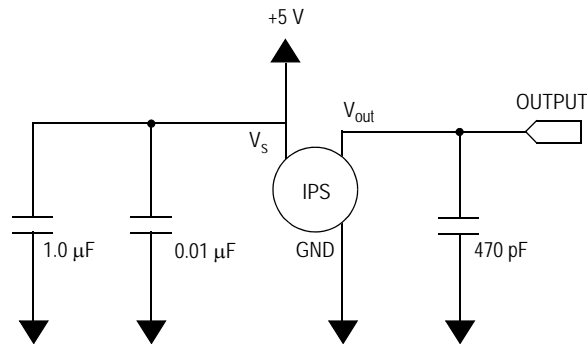

Figure 3. Recommended Power Supply Decoupling and Output Filtering
**Table 1. Operating Characteristics** ( $V_S = 5.0$  Vdc,  $T_A = 25^\circ\text{C}$  unless otherwise noted,  $P_1 > P_2$ . Decoupling circuit shown in Figure 3 required to meet electrical specifications.)
curves are shown for operation over a temperature range of 0° to 85°C using the decoupling circuit shown in Figure 3. The output will saturate outside of the specified pressure range.
Figure 3 shows the recommended decoupling circuit for interfacing the output of the integrated sensor to the A/D input of a microprocessor or microcontroller. Proper decoupling of the power supply is recommended.